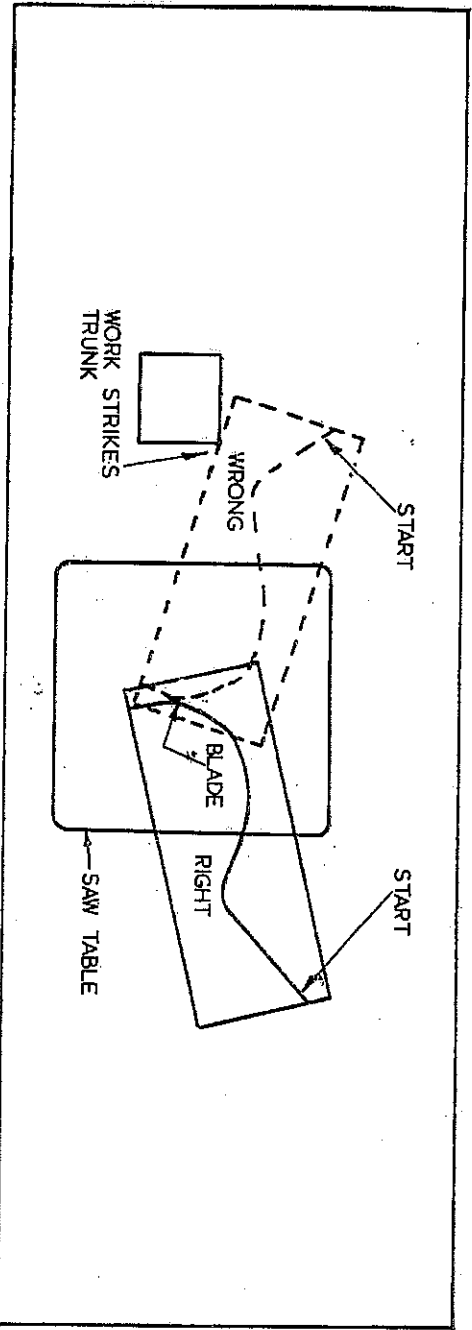

FIG 34
1. Watch Feed Directions SEE FIG. 34.